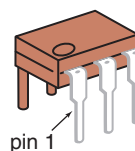

Fig. 5-28 (a) The 4N25 optoisolator pin out and six-pin DIP.
One economical optoisolator is featured in Fig. 5-28. The *4N25 optoisolator* consists of a *gallium arsenide infrared-emitting diode* optically coupled to a silicon *phototransistor detector* enclosed in a six-pin dual in-line package (DIP). Figure 5-28(a) details the pin diagram for the 4N25 optoisolator with the names of the pins. On the input side, the LED is typically activated with a current of about 10 to 30 mA. When the input LED is activated, the light activates (turns on) the phototransistor. With no current through the LED the output phototransistor of the optoisolator is turned off (high resistance from emitter to collector).
A simple test circuit using the 4N25 optoisolator is shown in Fig. 5-28(b). The digital signal from the output of a TTL or FACT inverter directly drives the infrared-emitting diode. The circuit is designed so the LED is activated when the output of the inverter goes LOW, which allows the inverter to sink the 10 to 20 mA LED current to ground. When the LED is activated, infrared light shines (inside the package) activating the phototransistor. The transistor is turned on (low resistance from emitter to collector) dropping the voltage at the collector
In Fig. 5-28(b), when pin 2 of the optoisolator goes LOW, the output at the collector of the transistor goes LOW. The grounds of the separate power supplies should not be connected to complete the isolation between the low- and high-voltage sides of the optoisolator.
A simple application of the optoisolator being used to interface between TTL circuitry and a piezo buzzer is diagrammed in Fig. 5-28(c). In this example the pull-up resistor is removed because we are using the NPN phototransistor in the optoisolator to sink the 2 to 4 mA of current when the transistor is activated. A LOW at the output of the inverter (pin 2 of optoisolator) activates the LED, which in turn activates the phototransistor.
To control heavier loads using the optoisolator, we could attach a power transistor to the output as is done in Fig. 5-28(d). In this example, if the LED is activated, it activates the phototransistor. The output of the optoisolator (pin 5) drops LOW, which turns off the power transistor. The emitter-to-collector resistance of the power transistor is high, turning off the dc motor. When the output of the TTL inverter goes HIGH, it turns off the LED and the phototransistor in the optoisolator. The voltage at output pin 5 goes positive, which turns on the power transistor and operates the dc motor.
Fig. 5-28 (cont.) (b) Basic optoisolator circuit separates 5-V and 12-V circuits. (c) Optoisolator driving piezo buzzer. (d) Optoisolator isolating low-voltage digital circuit from high-voltage/current motor circuit.
If the power transistor (or other power-handling device such as a triac) in Fig. 5-28(d) were housed in the isolation unit, the entire device is sometimes a *solid-state relay*. Solid-state relays can be purchased to handle a variety of outputs included in either ac or dc loads. The output circuitry in a solid-state relay may be more complicated than that shown in Fig. 5-28(d).
digital circuits. A typical optoisolator, shown in Fig. 5-28(a), contains an infrared-emitting diode that activates a phototransistor. If you are building an interface project using the parallel port from an IBM-compatible PC, you will want to use optoisolators between your circuits and the computer. The PC parallel-port outputs and inputs operate with TTL level signals. Good isolation protects your computer from voltage spikes and noise.
60. Refer to Fig. 5-28(b). If the output of the TTL inverter goes LOW, the infrared LED _____ (does not light, lights), which _____ (activates, deactivates) the phototransistor and the voltage at pin 5 (output) goes _____ (HIGH, LOW).
61. Refer to Fig. 5-28(b). The 10-k Ω resistor connecting the collector of the phototransistor to +12 V is called a(n) _____ resistor.
62. Refer to Fig. 5-28(c). If the output of the TTL inverter goes HIGH, the LED _____ (does not light, lights), which _____ (activates, deactivates) the phototransistor and the voltage at pin 5 (output) goes (HIGH, LOW) and the buzzer _____ (does not sound, sounds).
63. Refer to Fig. 5-28(d). If the output of the TTL inverter goes HIGH, the LED does not light, which deactivates (turns off) the phototransistor and the voltage at pin 5 (output) goes more positive. This positive-going voltage at the base of the power transistor _____ (turns on, turns off) Q_1 and the dc motor _____ (does not run, runs).
65. Refer to Fig. 5-28(c). If the *input* to the inverter is HIGH then the piezo buzzer _____ (will not sound, will sound).